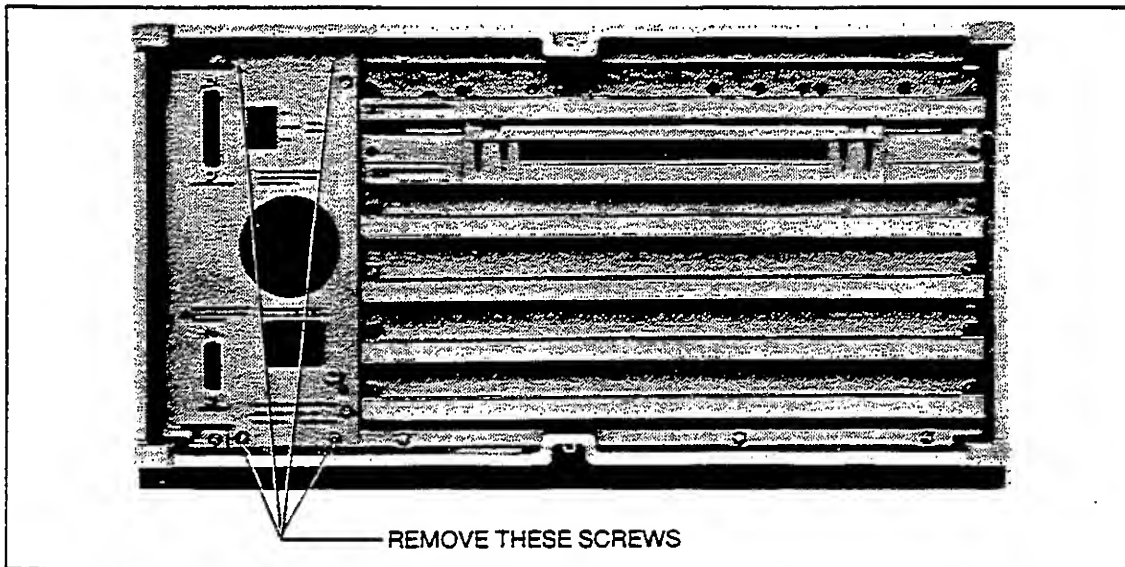

Figure 4-1. Computer Interface Module Supply Removal Screws
3. Remove the four Phillips-head screws indicated in Figure 4-1.